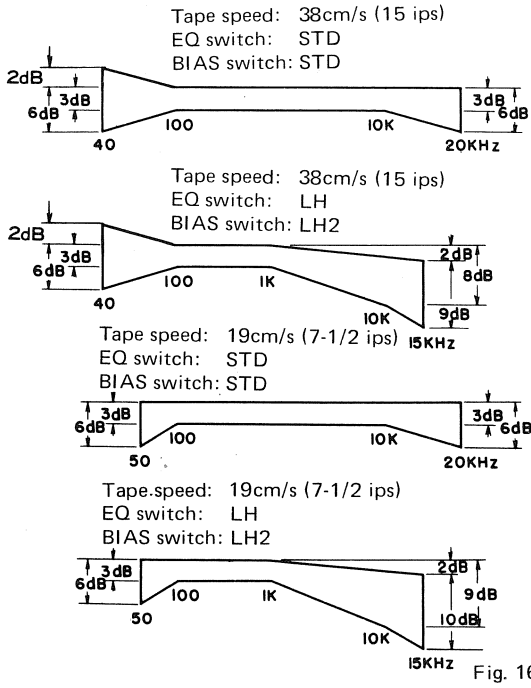

Fig. 16
4. Adjust L101 (L channel) and L102 (R channel) so that the deviation in the monitor output levels measured in step 3 above comes into the 'envelopes' shown in Fig. 16. Furthermore adjust L101 (L channel) and L102 (R channel) so that the difference between the response at 1kHz and 15kHz in "playback Frequency Response Check" (playback response alone) varies within  $\pm 1$ dB of the difference (recording and playback response) in step 3.
6. Check to ensure that frequency response remains within the 'envelopes' of Fig. 16 after both recording and playback for input signal frequencies of 50, 100, 250, 2.5k, 5k, 10k, 15k, and 20kHz.